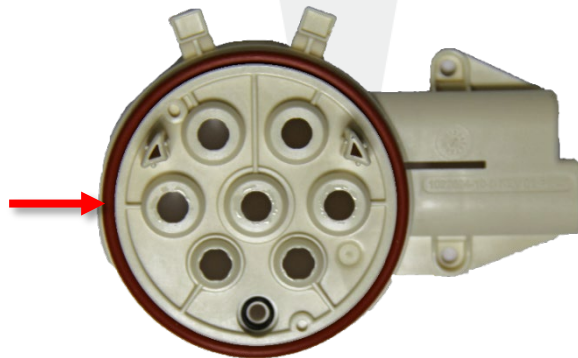

Figure 32
14. Install a new O-ring onto the new pin carrier (Figure 32).